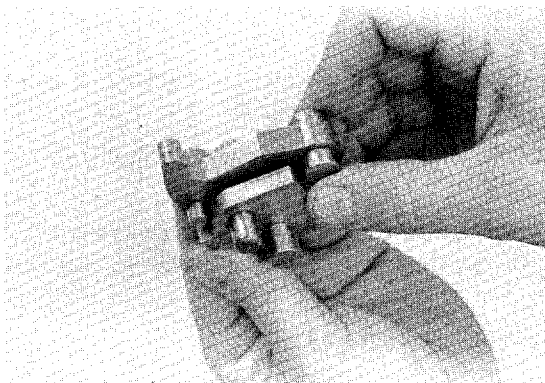

Figure 9-13
8. Install the secondary weight (20) to the pin (22) with pin protruding from secondary weight pointing away from primary weight. The wave washer (21) should be between the primary weight and secondary weight (Figure 9-13).